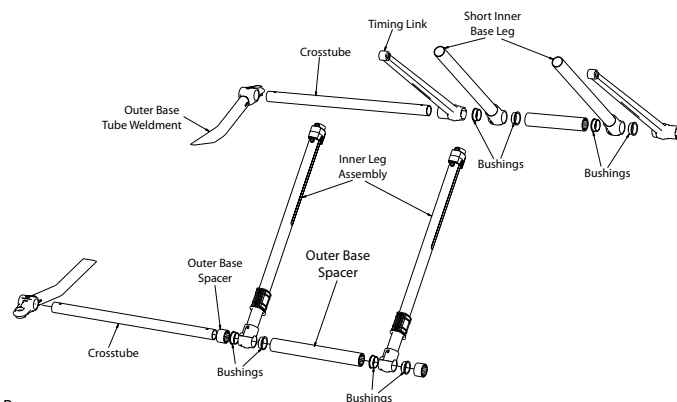

Figure 62
6. Remove the outer base tube weldment on the side that is damaged. Leave the opposite side on to support the X-frame (see Figure 62).
7. Slide the base crosstubes through the X-frame legs to loosen the X-frame (see Figure 62).
6. Remove the outer base tube weldment on the side that is damaged. Leave the opposite side on to support the X-frame (see Figure 62 on page 63).
7. Slide the base crosstubes through the X-frame legs to loosen the X-frame (see Figure 62 on page 63).
5. Remove the outer base tube weldment on the side that is damaged. Leave the opposite side on to support the X-frame (see Figure 62 on page 63).
6. Slide the base crosstubes through the X-frame legs to loosen the X-frame (see Figure 62 on page 63).